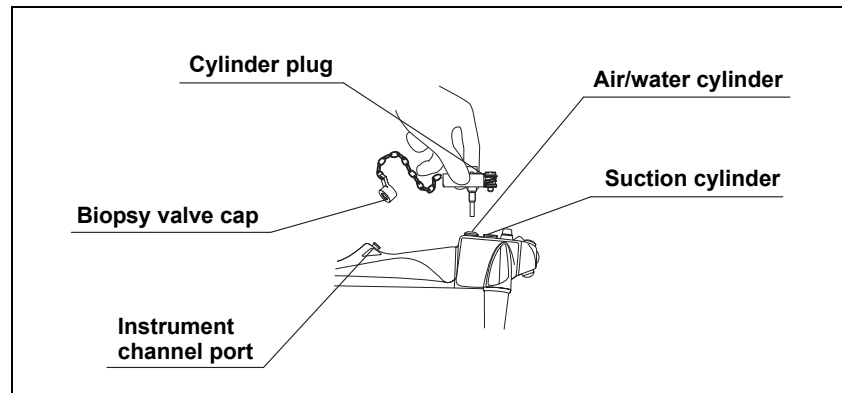

Figure 3.25
1. Attach the channel plug's biopsy valve cap to the instrument channel port (see Figure 3.25).
2. Lower the channel plug's cylinder plug onto the air/water and suction cylinders and slide the plug until it stops (see Figure 3.25).